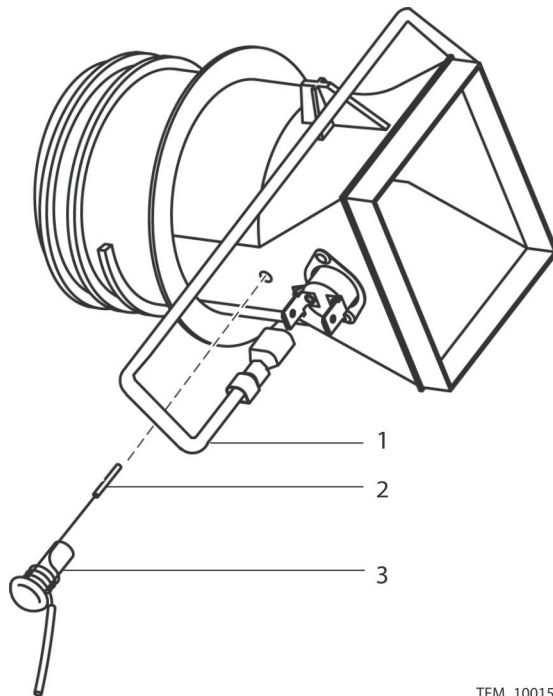

Figure 60. Thermistor Removal
- Carefully detach the thermistor rivet (Figure 60, item 3) and slide the thermistor (Figure 60, item 2) out of the duct adapter assembly.
- Detach the wires from the two thermostats on the side of the duct transition. Leave the jumper wire connecting the two thermostats (Figure 60, item 1) in place.
12. Carefully reinsert the thermistor into the duct adapter assembly. See Figure 60, item 1.